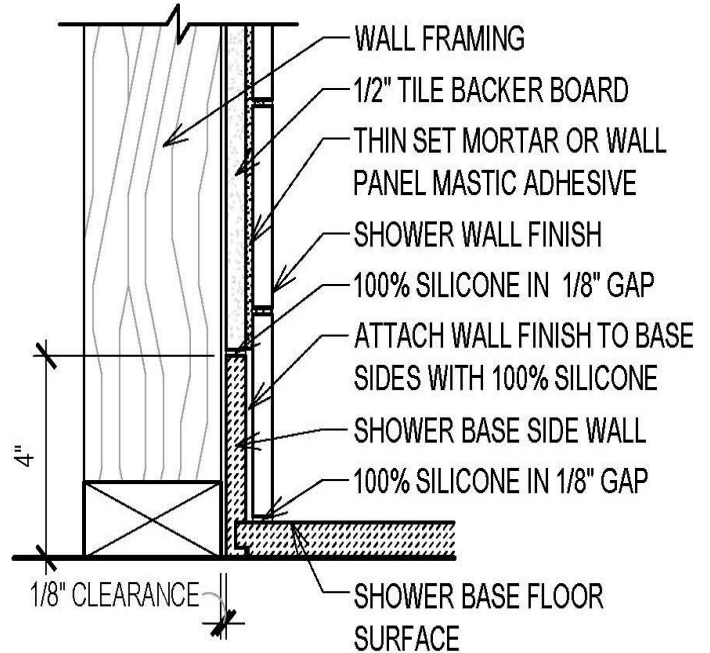
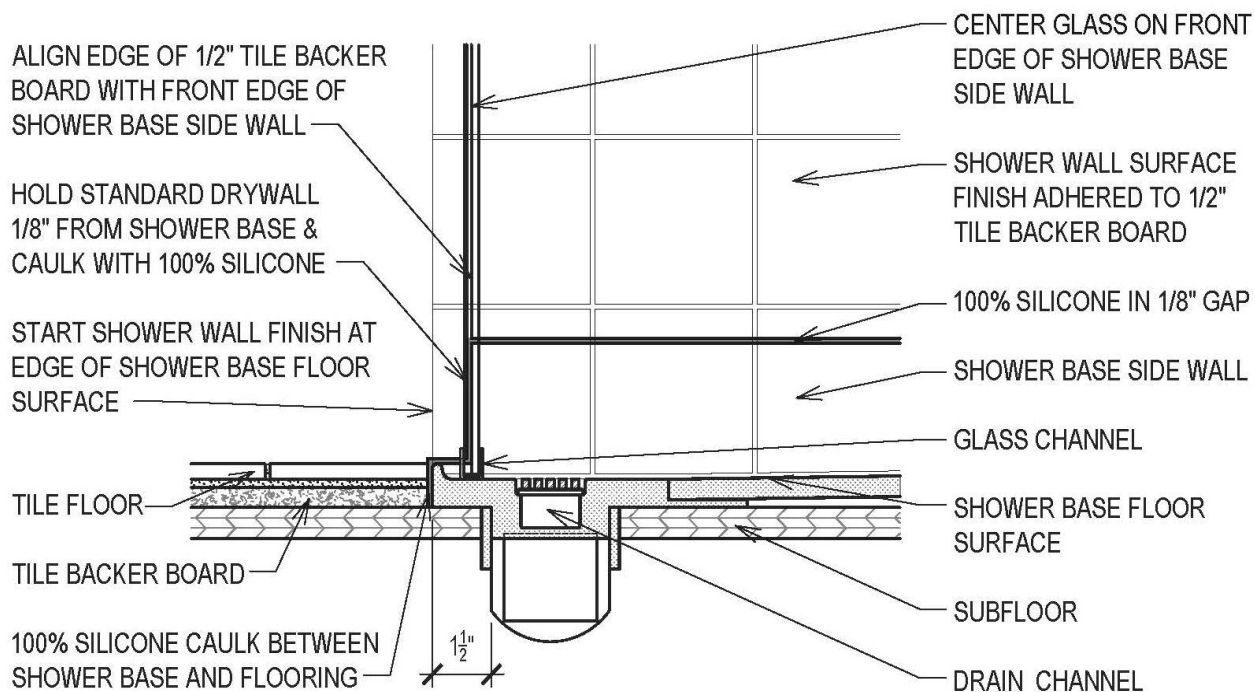

Figure 6a
Figure 6b
When shower wall finishes are installed, tile or other wall finishes used should be adhered to the shower base's 4" vertical sides using 100% silicone mildew resistant caulk. Do NOT use tile thin set mortar or any other mastic. These materials will not adhere as well or allow for expansion. See Figure 6a. Joint between base front and flooring must be caulked with 100% silicone, NOT grouted. See Figure 6b. Install tile or other wall finishes 1/8" off the shower base floor and flush to the front of shower base. Caulk the 1/8" gap with 100% silicone caulk. See Figures 6a & 6b.
- Install tile backer board a minimum of 1/8" off the top of the 4" vertical sides of the shower base. Using 100% silicone caulk, fill the 1/8" gap between the base vertical side and tile backer board. See Figure 6a & 6b.
- Install wall finish material slightly past the drain opening so water that runs down the side walls to the drain cannot escape at the side wall and drain interface. See Figure 6b.
- Shower door and glass panels should be mounted at the front of the drain, centered between drain opening and front of shower base. See Figure 6b. Do NOT mount glass channels to shower base with screws. Use 100% silicone to mount glass channels.